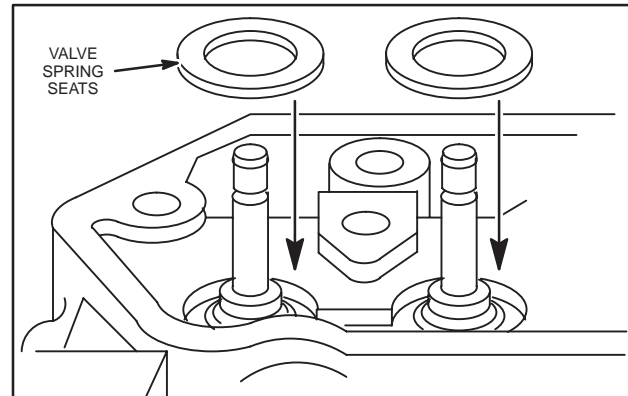

Fig. 27 – Install Valve Spring Seats And Valves
2. Install valve spring seats, Fig. 27.